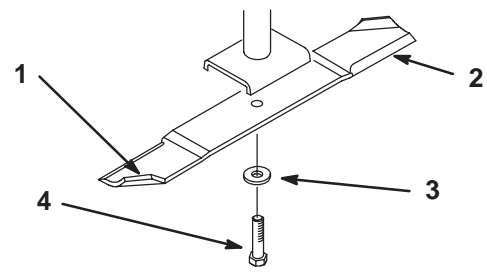
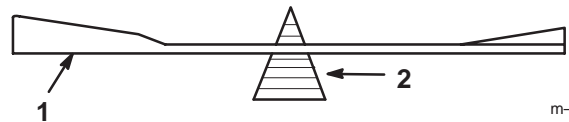

Figure 30
Figure 32
Hold the blade end using a rag or thickly-padded glove. Remove the blade bolt, spring disk and blade from the spindle shaft (Fig. 30).
2. Check the balance of the blade by putting it on a blade balancer (Fig. 32). If the blade stays in a horizontal position, the blade is balanced and can be used. If the blade is not balanced, file some metal off the end of the sail area only (Fig. 30). Repeat this procedure until the blade is balanced.
1. Install the blade onto the spindle shaft (Fig. 30).
2. Install the flat washer, lock washer and blade bolt (Fig. 30). Torque the blade bolt to 85–110 ft-lb (115–150 N•m).